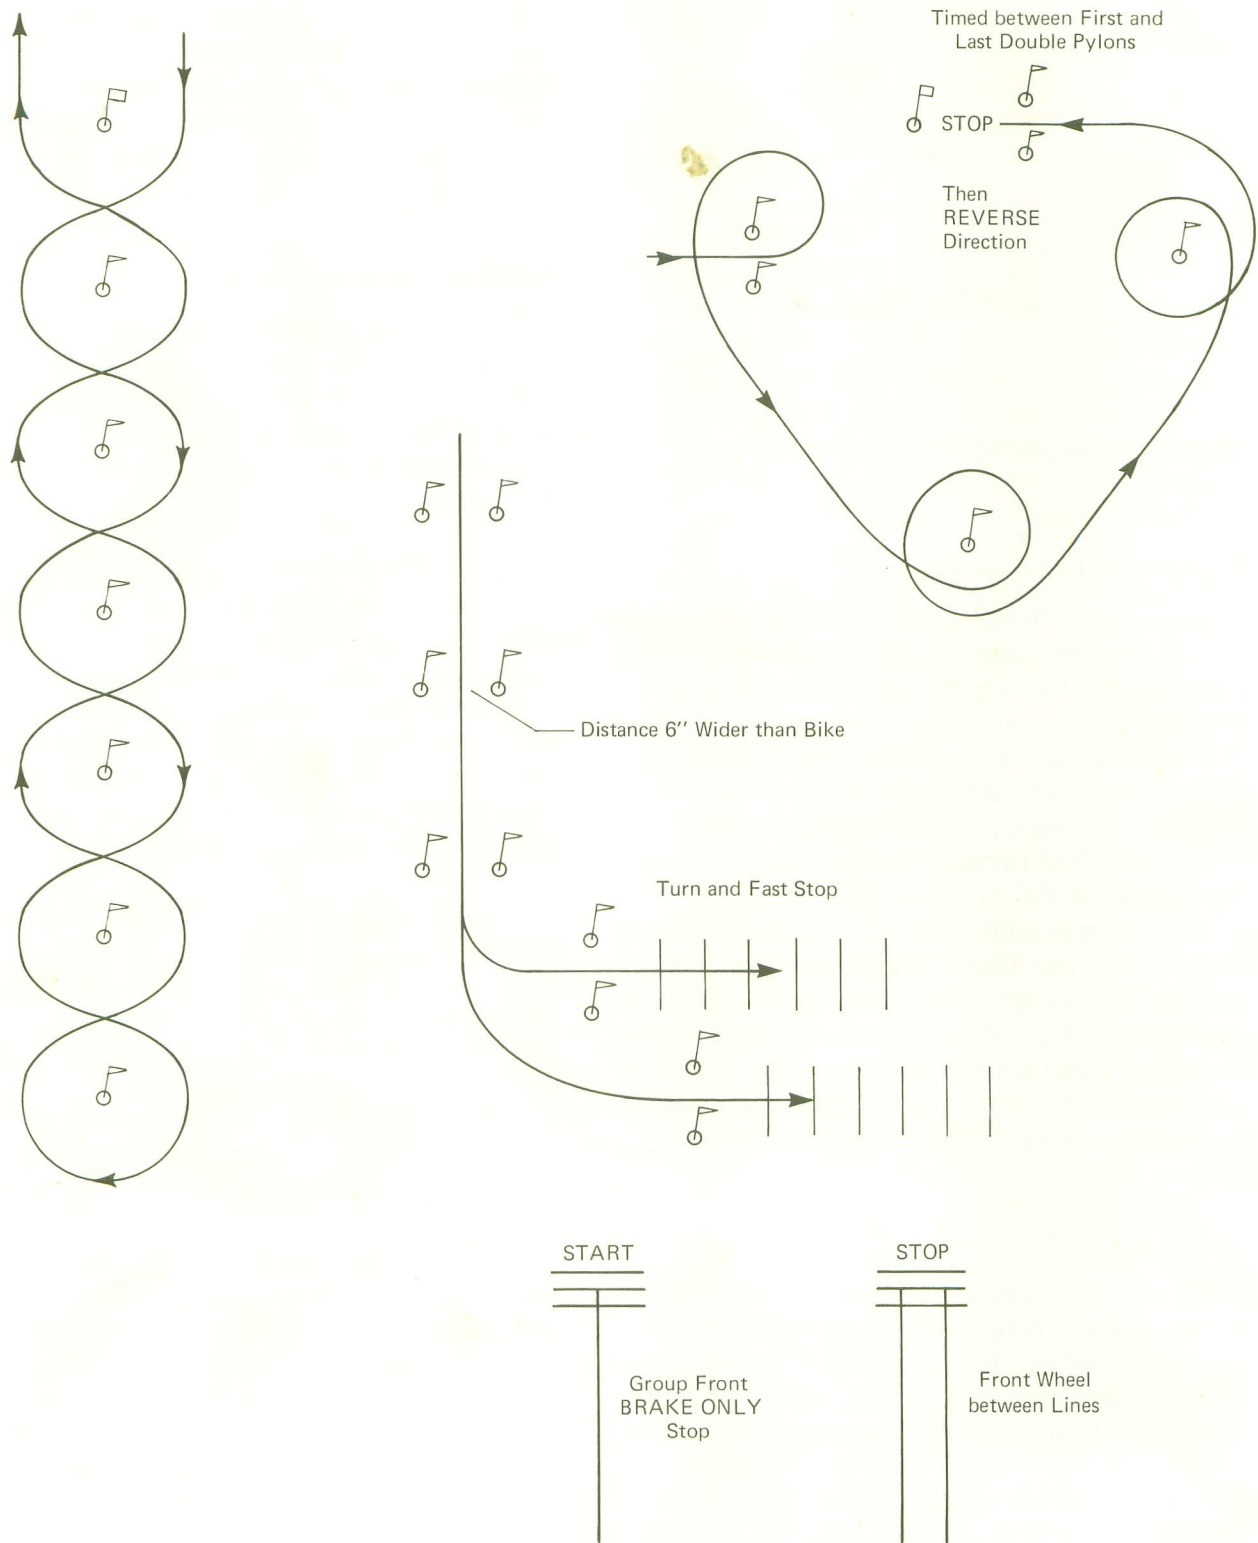

Fig. 2-16 Overview of a pylon course, showing the slalom, triangle, turn-stop and group start-stop
**Tight Turning and Start-Stop Drills.** These exercises are excellent ways to improve your slow-speed balance and coordination. There are several ways such a course can be set up; you can use tin cans if traffic cones are not available for markers. A suggested course is diagrammed in Fig. 2-16. Practicing several "start-stop" drills is an excellent way to improve your "downtown" traffic skills and techniques.